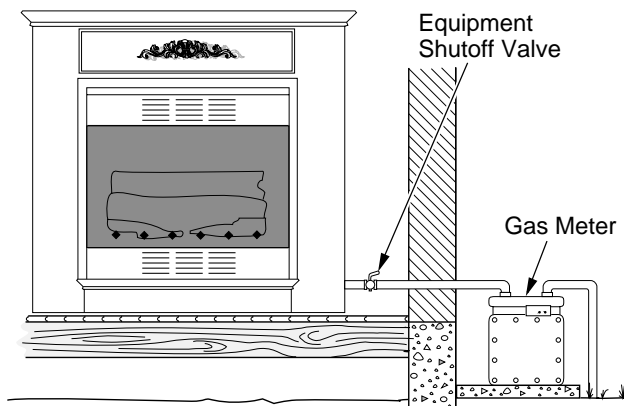

Figure 23 - Checking Gas Joints (Shown with Optional Mantel)
3. Check all joints from gas meter to equipment shutoff valve (see Figure 23). Apply a noncorrosive leak detection fluid to all joints.
4. Check all joints from equipment shutoff valve to thermostat gas valve (see Figure 23). Apply a noncorrosive leak detection fluid to all joints. Bubbles forming show a leak.